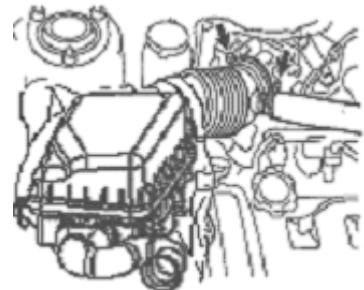

Figure 23
3. Remove air filter assembly with hose. See (Figure 23)